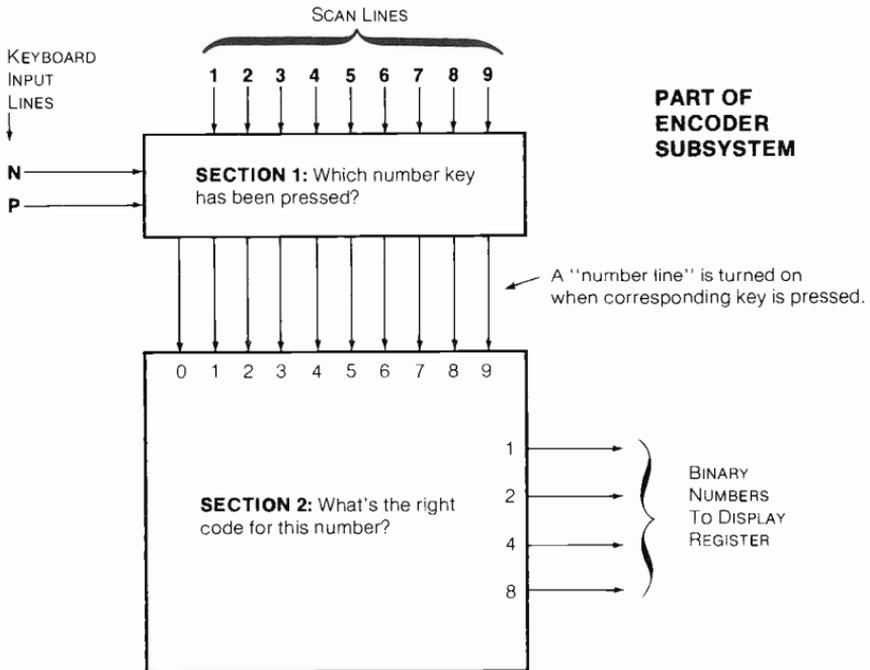
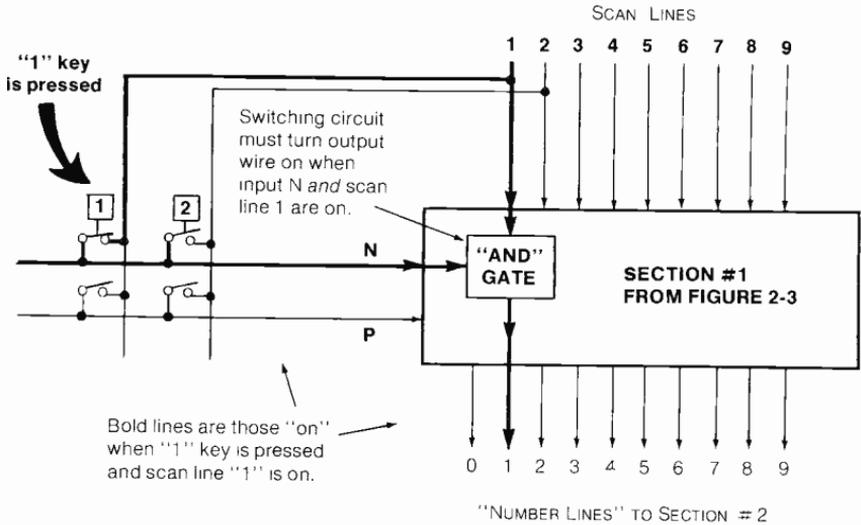
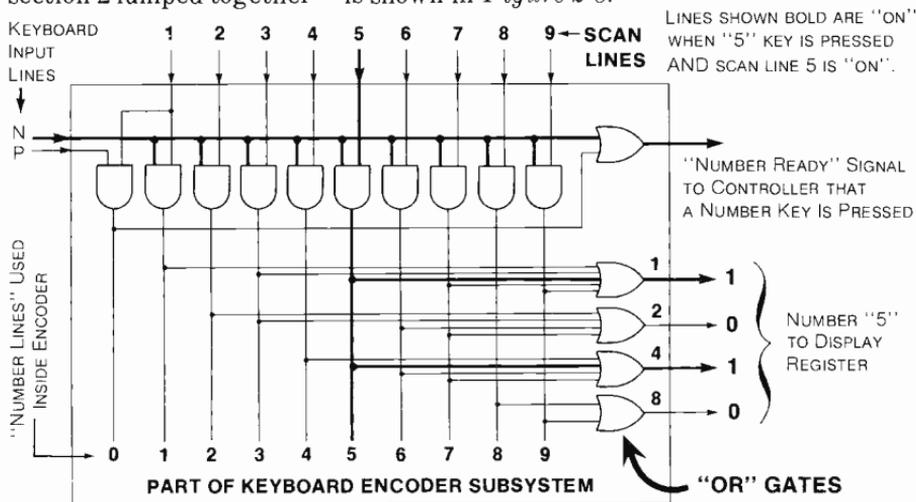

Figure 2-3. The encoder uses two steps in converting keyboard signals into numbers.
Figure 2-4. The job of the type of switching circuit found in Section 1 of the encoder shows what an AND gate does.
Figure 2-8. Complete design for encoding numbers, illustrating use of AND gates and OR gates
The encoder generates numbers in two steps, and each step will illustrate a different kind of basic decision-making circuit for us. These steps are illustrated in *Figure 2-3* as two sections of the encoder.
Let's look into the first section shown in *Figure 2-3*, and consider the switching circuit that decides when to turn on the "number one" wire leading down to the second section. *Figure 2-4* shows what this particular circuit has to do, and where it gets its input information. Let's consider this job carefully, because it's one of the most basic decisions in digital electronics.
We want this circuit to turn on the "number one" wire whenever the "one" key is pressed on the keyboard. Remember now – pressing the "one" key causes keyboard input line N to be "on" when scan line 1 is "on." No other keys (such as the other three shown in *Figure 2-4*) will make *both* these inputs be on at the *same* time. Therefore, our "number one" switching circuit must turn on whenever both input N *and* scan line 1 are "on."
TRUTH TABLE FOR CIRCUIT IN FIGURE 2-4, USING POSITIVE LOGIC
To prove that our AND circuit of *Figure 2-4* is really an AND gate according to the precise definition, we must first *decide what “on” and “off” mean in this particular application*. In the scan-line input, “on” means *yes*, electricity is being supplied only to the switches connected to scan line 1. Similarly, “on” in keyboard input N means *yes*, electricity is coming from one of the switches connected to this line. And electricity in the output means *yes*, the particular switch connected to both the input lines is turned on. The customary name for this situation (when “on” means 1 and “off” means 0) is “positive logic.” (Actually, positive logic says that a *higher, more positive voltage* means 1 and that a *lower, more negative voltage* means 0. So to be accurate, let’s *just* assume that our circuits are at a “higher” voltage when they’re “on.”) Anyway, using positive logic, we can write the truth table for the circuit of *Figure 2-4*. We just copy the function table from *Table 2-5*, writing 1 for “on” and 0 for “off.” This truth table is shown at the far right in *Figure 2-6*. If we examine it, we find it’s the truth table for a 2-input AND gate. So *in this application*, where we’re using *positive logic*, our circuit qualifies officially as an AND gate.
And speaking of the right kind of gates, there's another kind – just as important as the AND gate – that will let us design the second section of the encoder. You'll remember from *Figure 2-3* that the second section decides which of the four output wires to turn on to make a number for the display register. Well, this decision is made by several "OR gates." The entire design for encoding numbers – with both section 1 and section 2 lumped together – is shown in *Figure 2-8*.
You can recognize the ten AND gates at the top of *Figure 2-8*, just as they appeared in the preceding figure. The additional OR gates are shown along the right edge of the subsystem. This spearhead shape is the customary symbol for an OR gate. (Since we're assuming positive logic as usual, the symbol means a *positive* OR gate.)
As to just what an OR gate does – you can get a clue by following the bold lines in *Figure 2-8*. These are the lines that are “on” (1) when the “five” key is pressed and 0101 is being encoded, which is “five” in the binary code listed back in *Figure 1-18*. (Remember—0101 means 4 plus 1 in the electronic code that we have decided to use to transmit numbers electrically.)
To follow an OR gate's action more closely, refer back to *Figure 2-8*, and look at the OR gate that turns on the "8" output. This OR gate's output is 1 when either the "number 8" line OR the "number 9" line is 1. And of course the reason we use these two number lines as inputs here is that eight and nine are the only numbers in our binary electronic code that have 1 in the "eights" place.
So that's what an OR gate does, and that's how number keys are encoded. However, if you've been studying *Figure 2-8* closely, there's a feature that may be puzzling you. The "zero" number line does not connect to *any* of the four OR gates that generate binary numbers, but instead ties into another OR gate higher up. Why is this?
But what we *do* need the "zero" number line for is to participate in *alerting the controller* whenever one of the ten number keys is pressed, so the controller can go through the appropriate routines (discussed in Chapter 1) and tell the display register to store the number. Remember, we said that the controller doesn't need to know exactly *which* number key is pressed. As you can see in *Figure 2-8*, this "number ready" signal to the controller is generated by the uppermost OR gate. This output is 1 whenever either the "zero" number line is 1 (indicating the "zero" key is pressed) OR input line N is 1 (indicating one of the other number keys is pressed).
This network in *Figure 2-8* may not look very significant by comparison with the complexity of the entire calculator, or some other digital systems. But it illustrates not only the two most important gate functions, but also the principle of one of the most basic types of subsystems – one that handles *codes*. (We'll explore this principle in more depth in Chapter 3, with respect to the segment decoder subsystem.) You'll learn then that this general pattern of gates is repeated again and again in *many* different types of subsystems: a row of AND gates followed by a row of OR gates. Take a good look at it, because it's going to be with you for a long time.